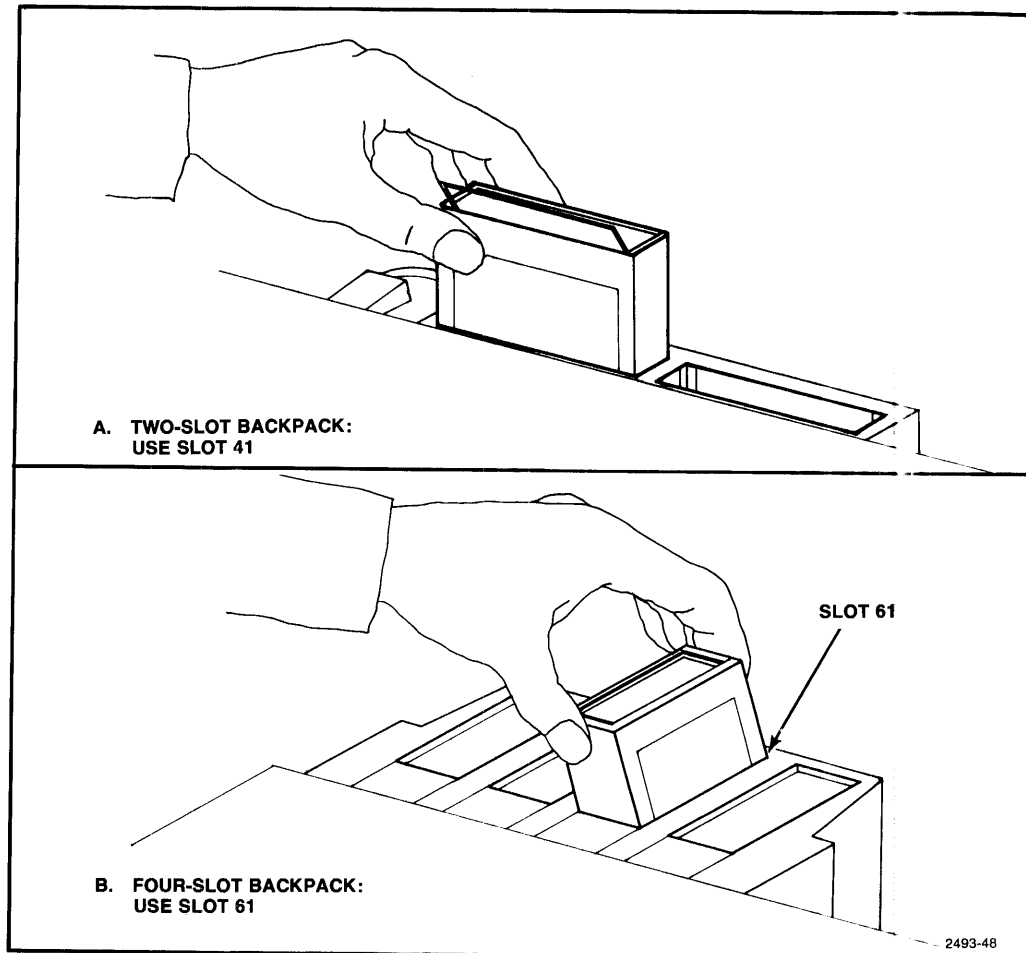

Figure 3-17. Plugging in the ROM pack.
3. Plug the File manager ROM Pack into the Graphic System backpack slot shown in Figure 3-17. Do not plug the ROM Pack into a ROM Expander unless ROM Expanders are connected to all backpack slots. **BE SURE THE GRAPHIC SYSTEM IS TURNED OFF.** If the Graphic System has the standard two-slot backpack, you should use Slot 41 (figure 3-17A). If the Graphic System has the optional four-slot backpack, you should use Slot 61 (Figure 3-17B).